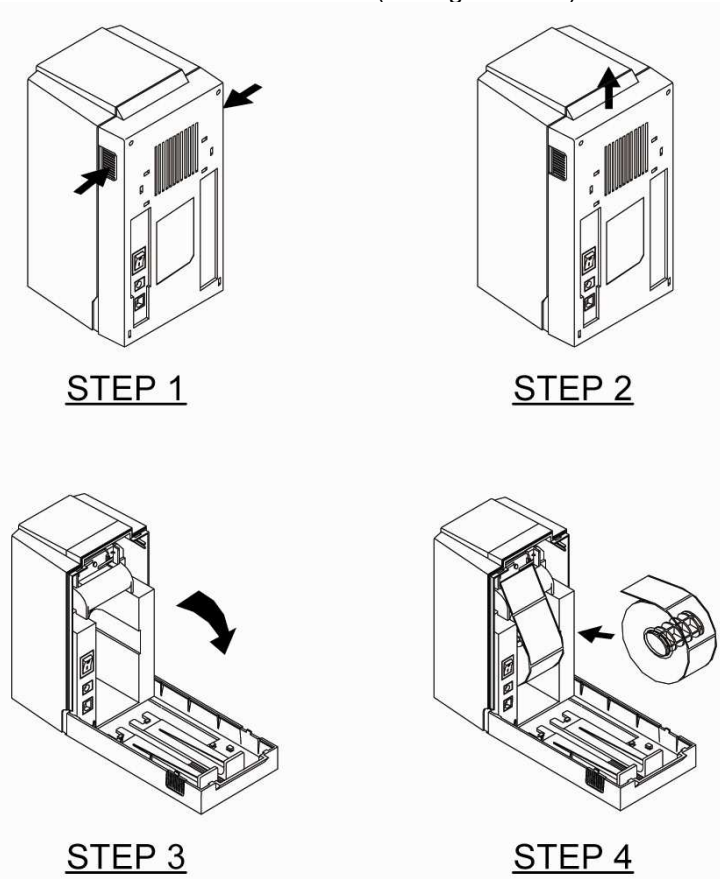

Fig. 2.3.1
1. Press the two lock switches (part 6) and lift **up** a little to open the rear cover. Then insert a small-size label roll onto the core shaft (see figure 2.3.1).
2. Press the two lock switches (part 6) and lift **up** a little to open the rear cover. (See figure 2.3.1)